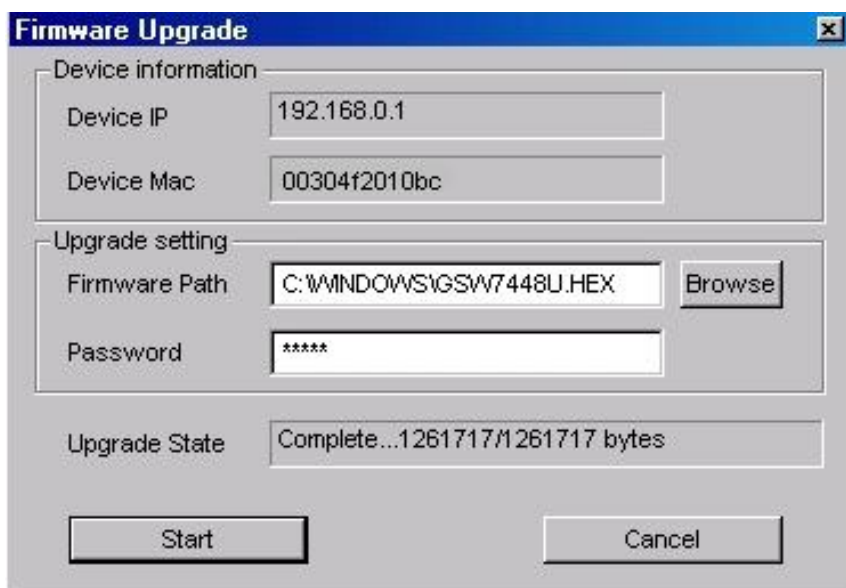

Figure 3-22 Firmware Upgrade completed screen
Step 3: After firmware upgrade completed, the Switch will reboot automatically. Then the following screen in **Figure 3-22** & 3-23 appears.